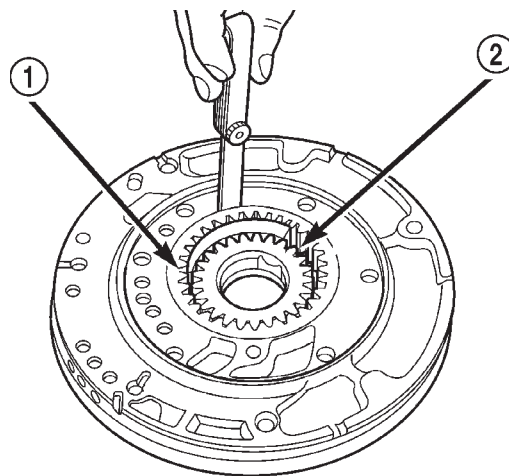

Fig. 175 Measure Outer Gear to Pocket
(3) Remove the pump gears and check for wear and damage.
(4) Install the gears and check clearances.
(5) Measure the clearance between the outer gear and the pump pocket (Fig. 175). Clearance should be 0.045-0.141mm (0.0018-0.0056 in.)
(6) Position an appropriate piece of Plastigage across both pump gears.
(7) Align the Plastigage to a flat area on the reaction shaft support housing.
(8) Install the reaction shaft to the pump housing. Tighten the bolts to 27 N. M (20 ft. lbs.)
(9) Remove bolts and carefully separate the housings. Measure the Plastigage following the instructions supplied.
(10) Clearance between outer gear side and the reaction shaft support should be 0.020-0.046mm (0.008-0.0018 in.). Clearance between inner gear side and the reaction shaft support should be 0.020-0.046mm (0.008-0.0018 in.).